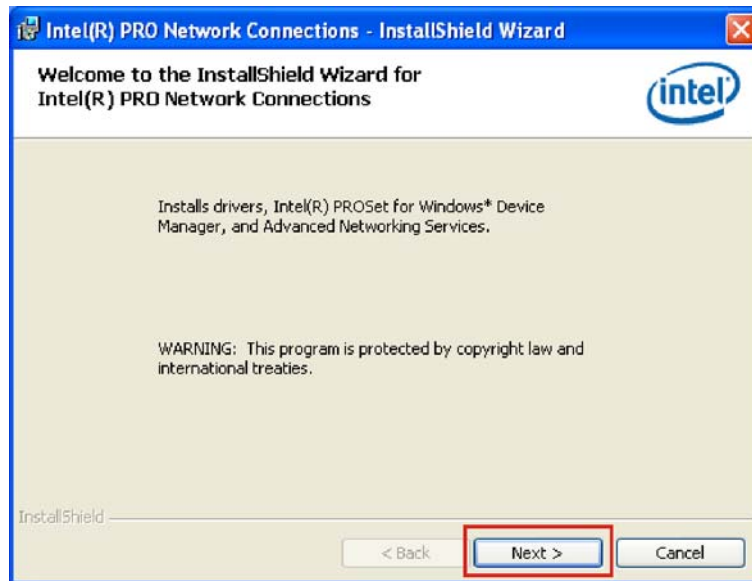

Figure 7-13: LAN Driver Welcome Screen
Step 3: The Welcome screen in **Figure 7-13** appears next.